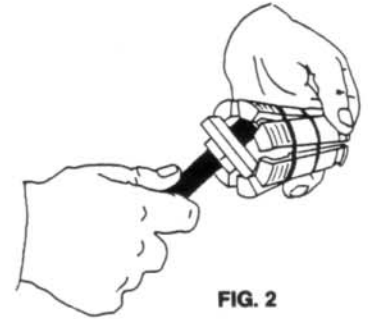

FIG. 2
1. Spin **STANDARD TAPERED COLLET NUT** onto **JACK SCREW** and assemble into the **COLLET PULLER ASSEMBLY** as shown in (Fig. 2). Use the **LARGE COLLET NUT** on large bearing cones such as in the 604 transmission.